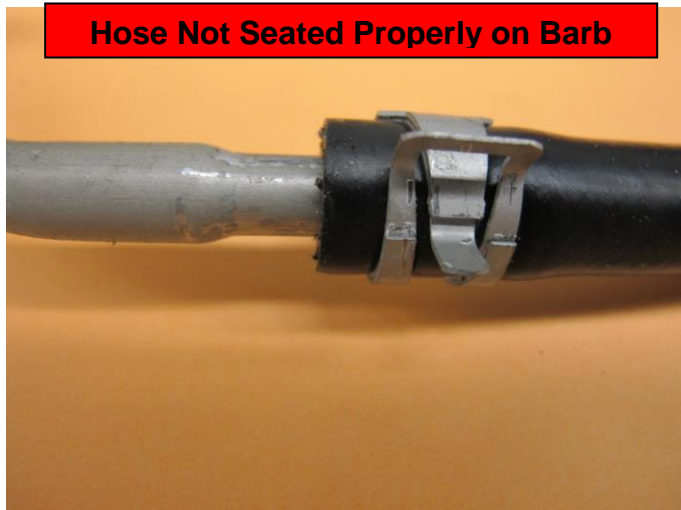

Figure 10
- Hose placement not correct (Check hose insertion length) (Figure 10).